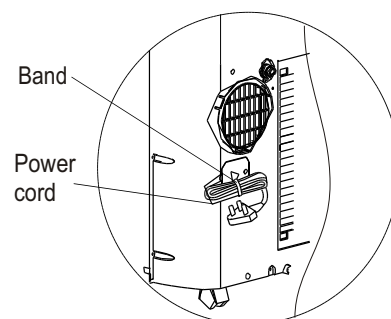

Figure 19
- Stop the appliance and unplug it, wrapped the cord and bundle it with the tape (Fig. 19). Remove the batteries from the remote controller.